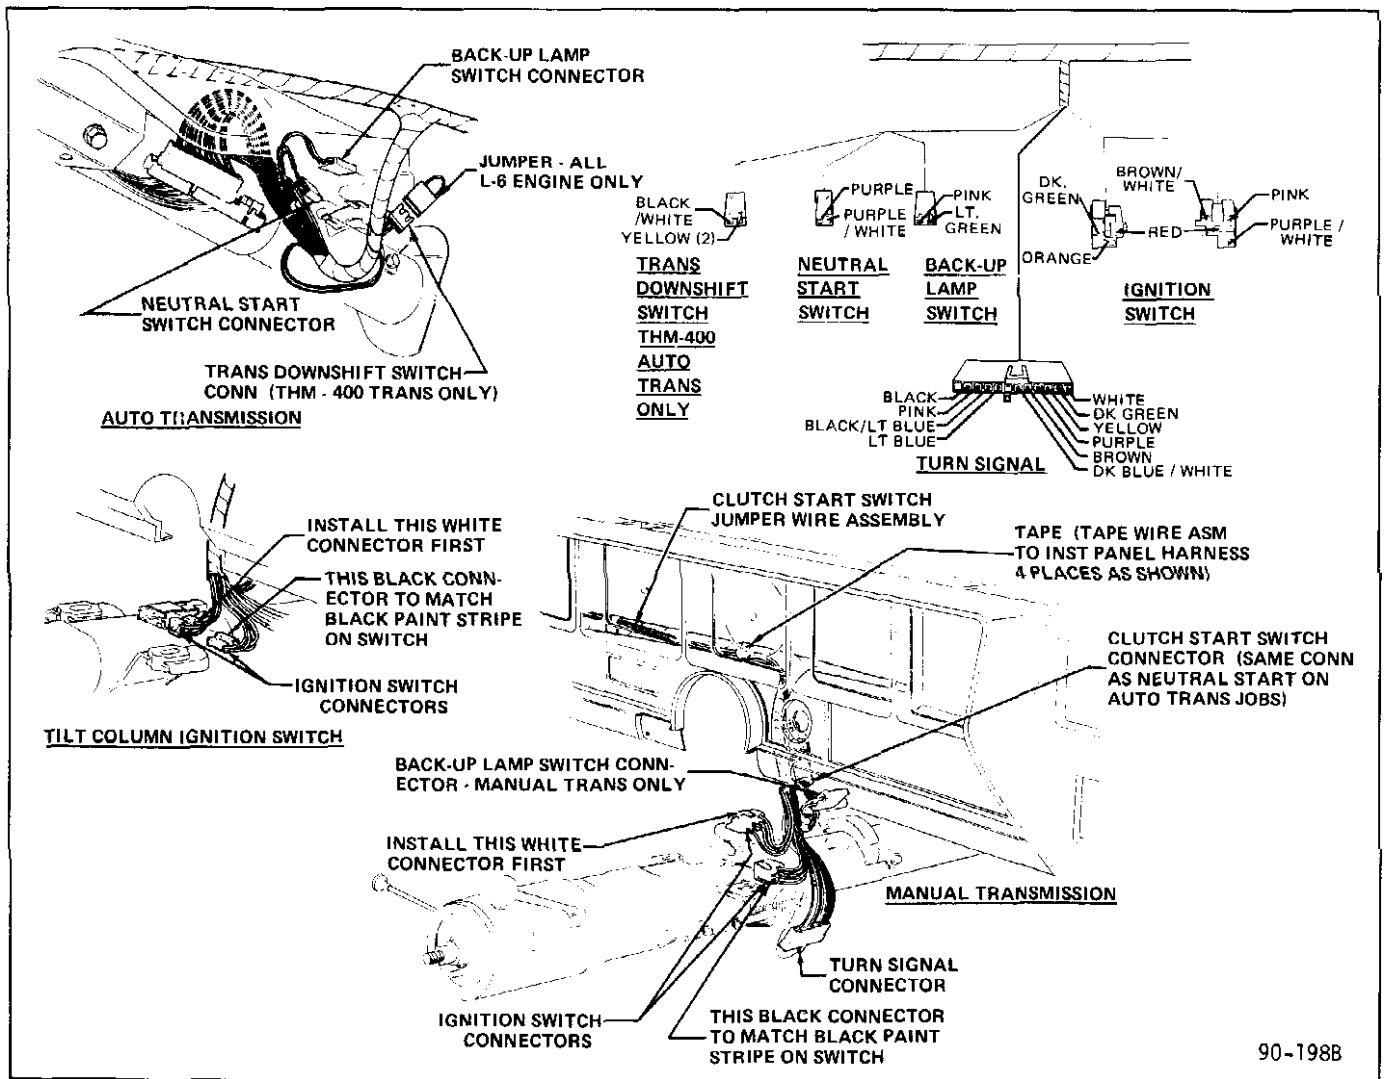

Figure 90-79 43-44000 Steering Column Electrical Connections
6. Disconnect all electrical connectors from steering column assembly and carefully withdraw column. See Figures 90-79 and 80.
2. Connect all electrical connectors to steering column. See Figure 90-79.
3. Position steering column to instrument panel, connect shift indicator link and loosely attach retaining nuts (F).
4. Position outer cover to dash and start screw (Q).
5. Install screw (L) and tighten to 40 lb.in. Tighten screw (Q) to 40 lb. in. Install and tighten screw (R) to 40 lb. in.
6. Tighten two clamp screws (C) to 40 lb. in.
7. Install and tighten two inner cover screws (J) to 40 lb. in.